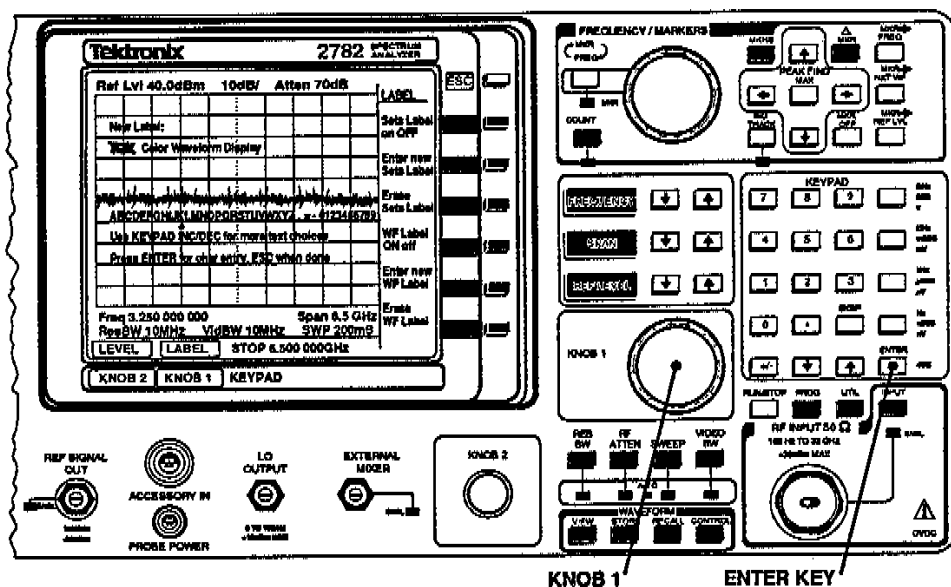

Figure 2-8. Enter a label on the screen.
- d. Rotate KNOB 1 to move the arrow-head cursor (located under A when initiated) to the desired character; see Figure 2-8. Press ENTER to select the character, and continue until the label is complete or the maximum of 30 characters is reached.